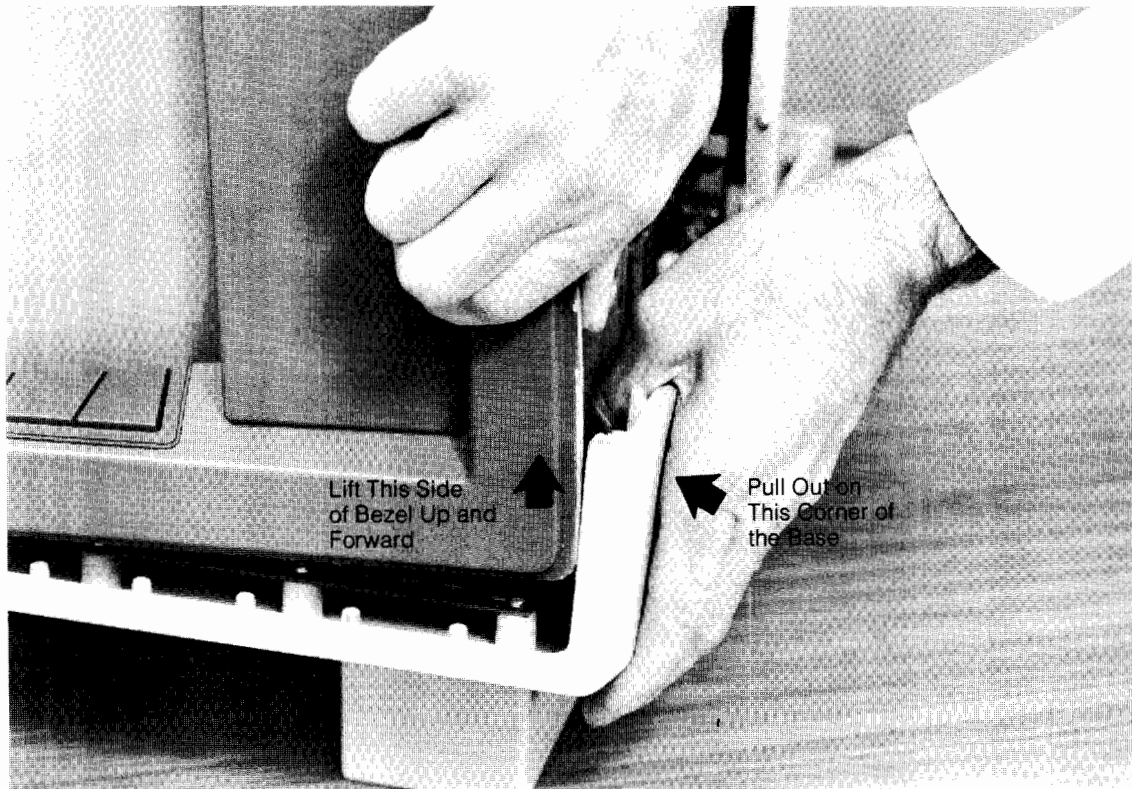

Figure 5-7. Bezel Removal
- Lift the right side of the bezel up until movement becomes difficult (see Figure 5-7).